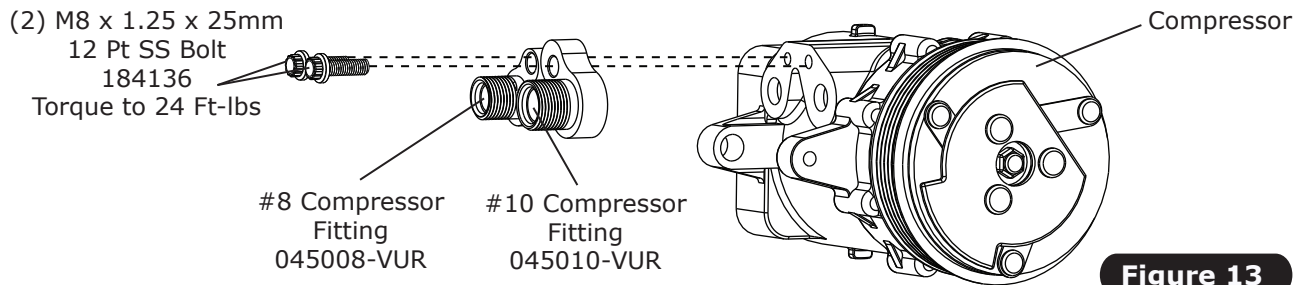

Figure 13
1. Install A/C fittings onto compressor as shown in Figure 13, below. **NOTE: Be sure not to dump oil out of compressor.**